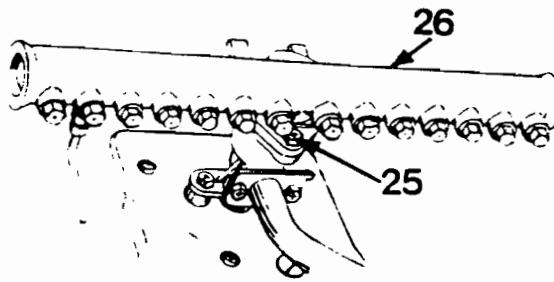

FIG. 6
Remove fixing screws at (25) Fig. 6. and lift off manifold (26).